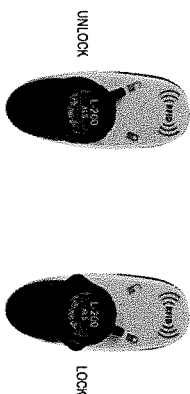
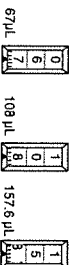

Figure 2: Volume Lock Control
Figure 4: Example volumes
1. Turn the volume lock lever to the "unlock" position so the volume setting mechanism is unlocked and free to turn. See left image in Figure 2.
4. Turn the volume lock to the "lock" position (Fig. 2 above) to prevent changes to the volume setting. Some volumes for the 200 µL model are shown in Figure 4.